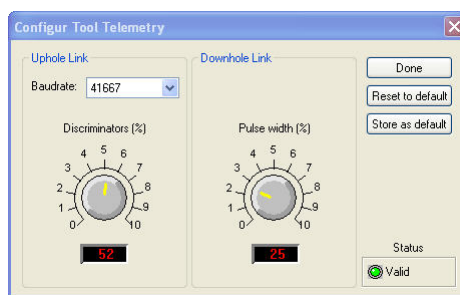

Figure 6-1 Tool communication settings - ALTLog
4. In the **Communication** panel, select **Settings**. Check **baud rate** is set to **41666** and **communication status** is **valid** (Figure 6-1 or Figure 6-2).